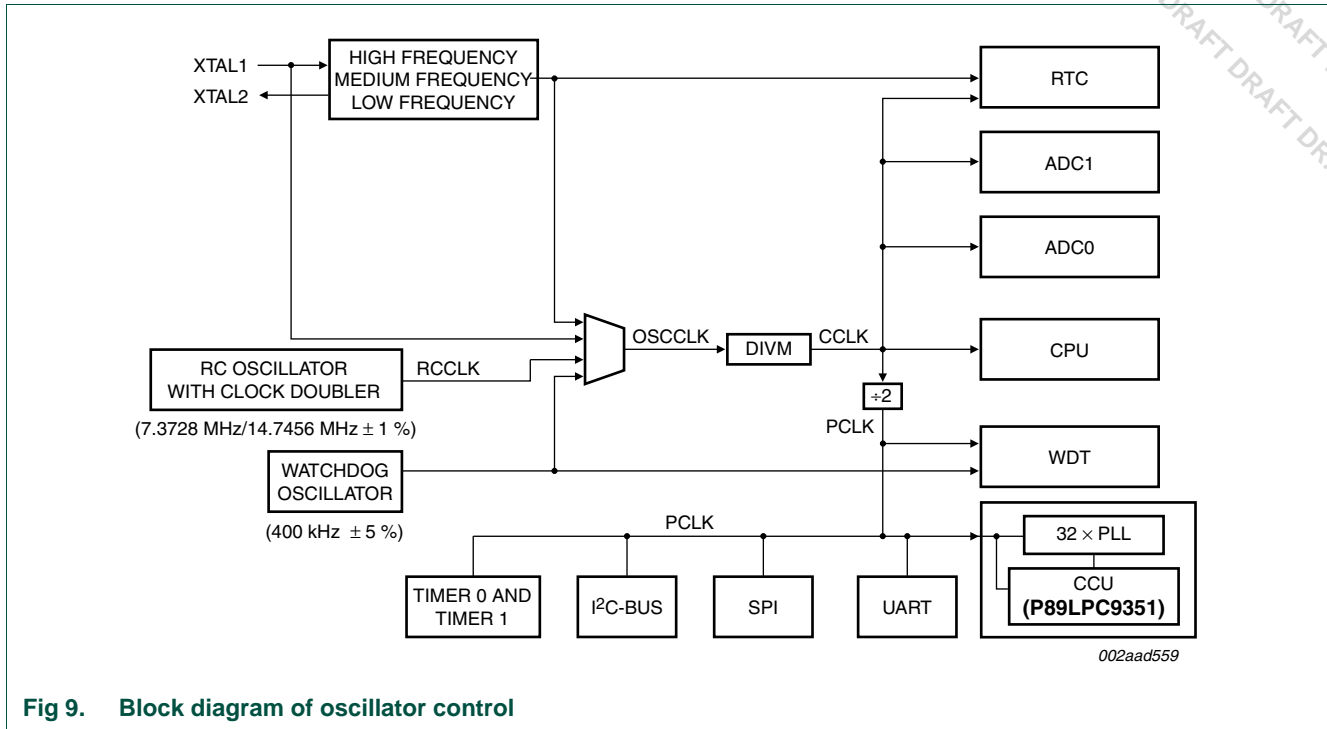

Fig 9. Block diagram of oscillator control
**OSCCLK** — Input to the DIVM clock divider. OSCCLK is selected from one of four clock sources and can also be optionally divided to a slower frequency (see Figure 9 and Section 2.10 “CPU Clock \(CCLK\) modification: DIVM register”). **Note:**  $f_{osc}$  is defined as the OSCCLK frequency.